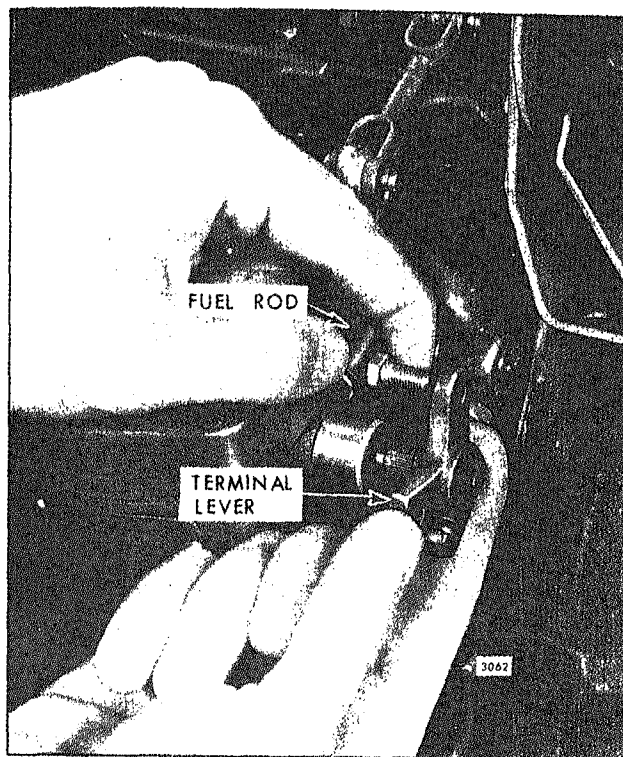

Fig. 3 - Adjusting Length of Fuel Rod
5. Hold the injector rack control tube and the terminal lever in the *full-fuel* position and adjust the length of the fuel rod until the end bearing or ball joint will slide freely into the hole of the terminal lever as shown in Fig. 3. Tighten the lock nut to retain the ball